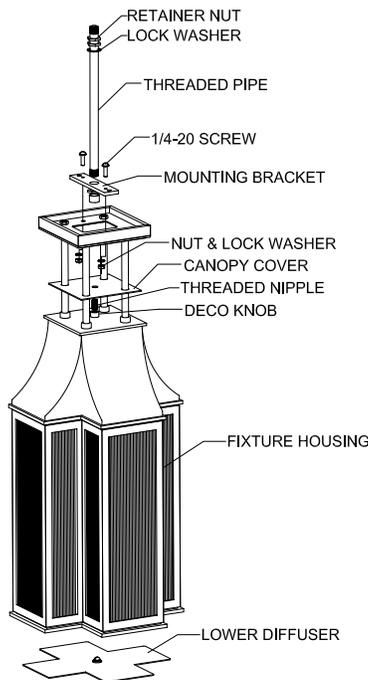

Figure 1
Step 1 Remove fixture and all fixture components from packaging. Avoid using sharp blade on packaging as it may damage the finish or the glass diffusers. Locate and disassemble the suspension hardware components. To begin the installation process, locate the mounting bracket, threaded pipe and misc. washers and retaining nuts and hardware. (See Figure 1)